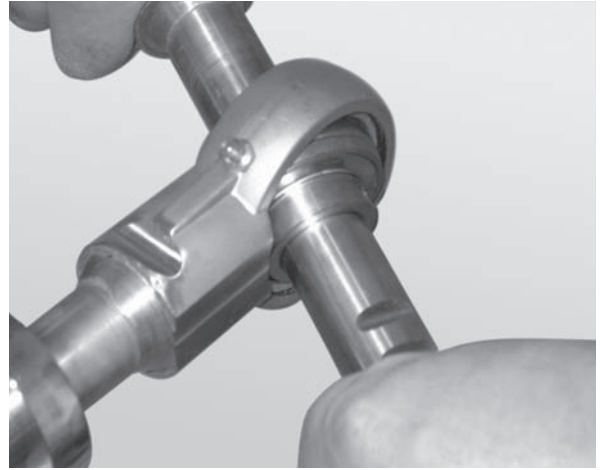

Figure 77
2. Insert the rod end of a second bearing shaft through the bearing (Figure 77).